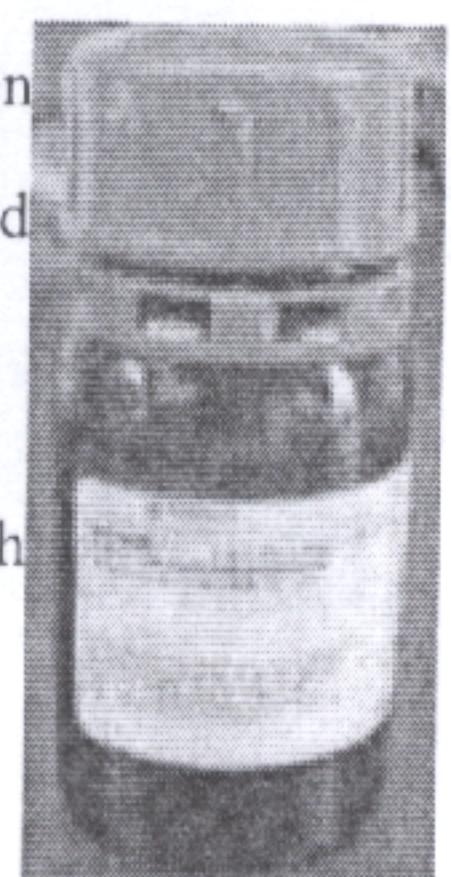

Figure 2: TEMED
- 3.1.11. TEMED. (Shown Right, Figure 2)
- 3.2. Place the spacers on the thinner edge of the 1st plate, push to the edges (Figure 2 left), and place the 2nd plate on top in the same orientation as the first (Figure 2 right).